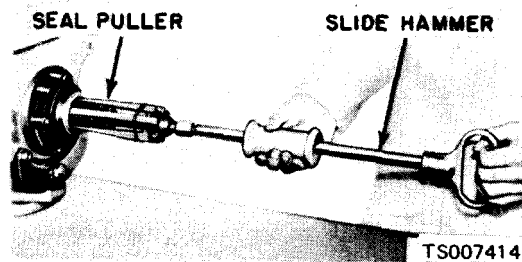

Figure 7-26. Removing Front Pump Seal.
(4) If the front pump housing bushing requires replacement, refer the unit to depot maintenance.
(5) If any parts other than the stator support, bushings or oil seal are found defective, replace the pump as a unit. Minor burrs and scores may be removed with crocus cloth. The stator support is serviced separately.
(6) Bolt the front pump to the transmission case with capscrews.
(7) If the oil seal requires replacement, install the oil seal remover shown in figure 7-26. Then pull the front seal from the pump body.